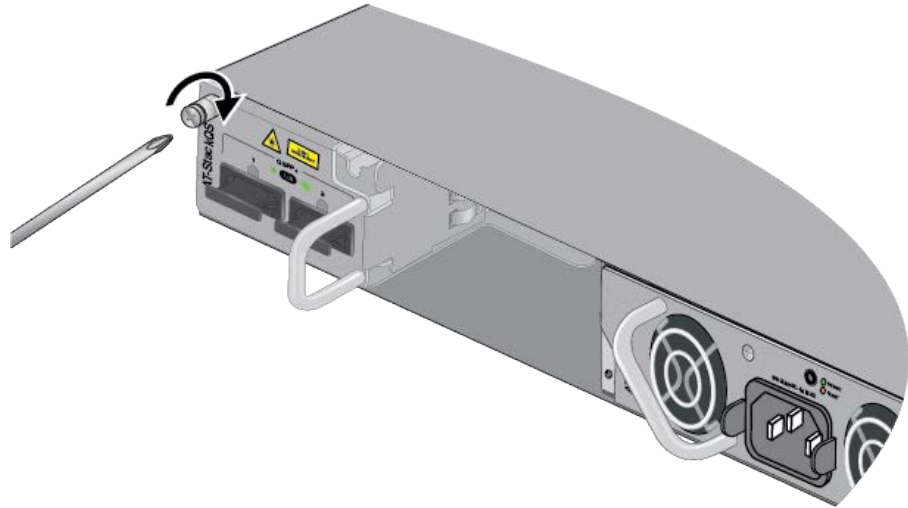

Figure 48. Tightening the Captive Screw on the Card
10. Tighten the captive screw to secure the card in the switch. Refer to Figure 48.